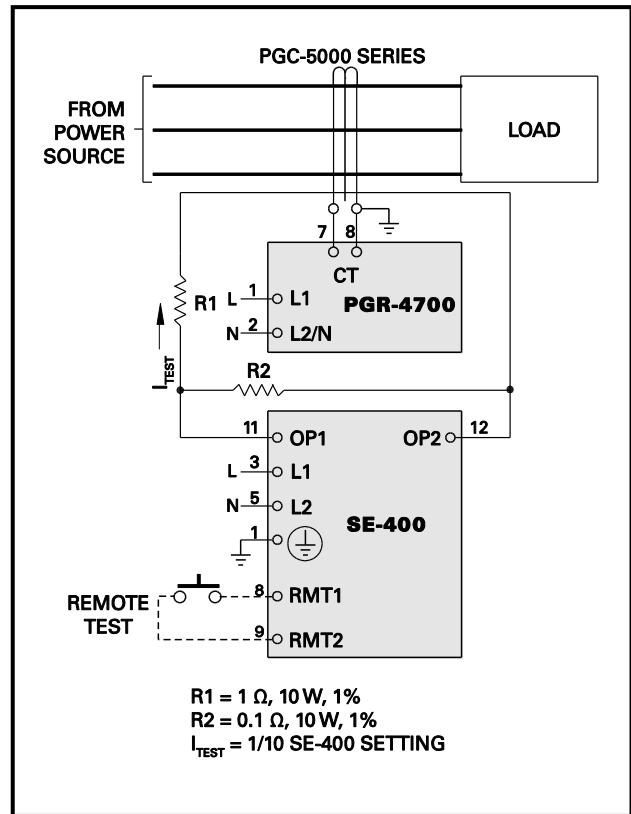

FIGURE 7. Ground-Fault-Test Circuit.
- d) Verify proper reaction of the circuit-interrupting device in response to a simulated or controlled ground-fault current. To simulate ground-fault current, use CT-primary current injection. Fig. 7 shows a test circuit using the SE-400 Ground-Fault-Relay Test Unit. The SE-400 has a programmable output of 0.5 to 9.9 A for a duration of 0.1 to 9.9 seconds. Fig. 7 shows the use of resistors that reduce the injected current to 10% of the SE-400 setting. Set the test current to 120% of the PGR-4700 setting. Inject the test current through the CT window for at least 2.5 seconds. Verify that the circuit under test has reacted properly. Correct any problems and re-test until the proper reaction is verified.
Fig. 7 updated.